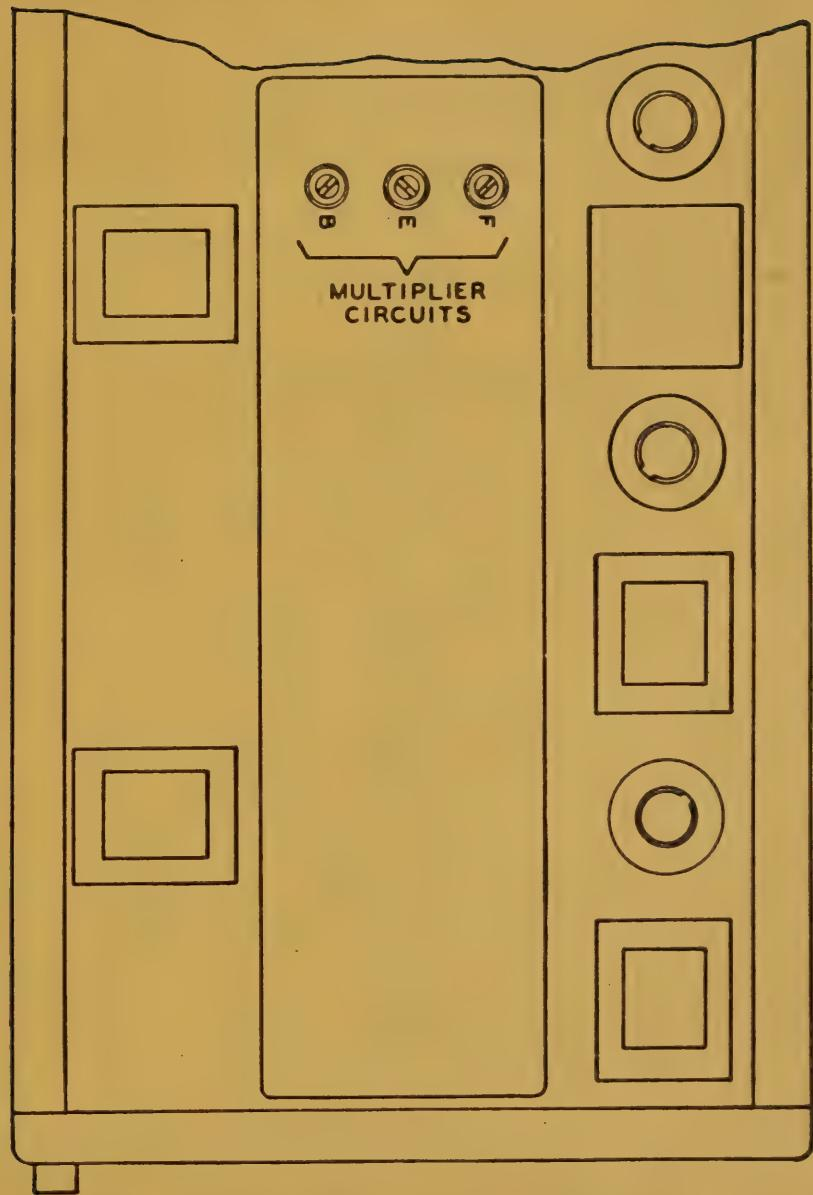

Figure 5-6B Tuned Circuit Locating Diagram
(10) Repeat the adjustment of i-f slugs 1-2-3-4 in the same manner as outlined to correct for any interaction between the circuits.
c. MULTIPLIER ALIGNMENT. - The multiplier is aligned by means of the slug adjustment of L-101 and the adjustment of C-141, C-142, and C-143. The slug adjustment for L-101 is engraved MULT. and can be located by referring to Figure 5-6B. Variable trimmer capacitors C-141, C-142 and C-143 are located on the right side of the receiver and the slotted shaft screwdriver adjustments are accessible through the holes in the shield engraved F, E and B. Refer to Figure 5-6E. To align the multiplier, proceed as follows:
(1) Connect the output lead of the signal generator to the antenna terminal of the receiver and connect the grounded lead to any convenient receiver chassis point.
(2) Connect the output meter to output jack J-104, adjust the receiver for MCW operation, turn the receiver on and allow the unit to "warm up" for at least five minutes.
(3) Loosen the Autotune locking keys and set the BAND selector control for the 12.5 to 18.5 megacycle band (band F).
(4) Rotate the TUNING control to the stop on the high frequency end of the band, then back away from the stop from two or three turns of the TUNING control.
(5) Adjust the signal generator to the frequency arrived at on the receiver. Adjust both the signal generator and the output meter to find the ave threshold level as outlined in steps (7) and (8) under i-f alignment procedure.